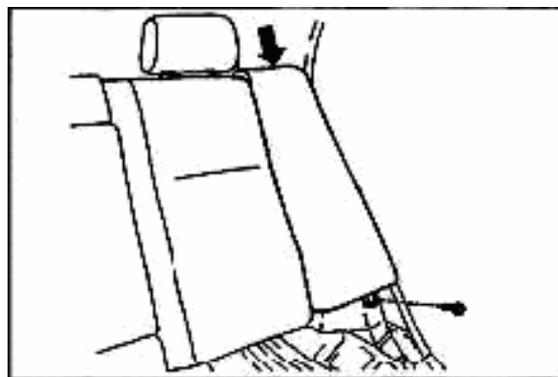

Fig. 7-19
(2) Install the left armrest assembly.
① Reverse to the removal steps, press the armrest along the direction shown in Fig. 7-19 so as to fix the pothook on the body.